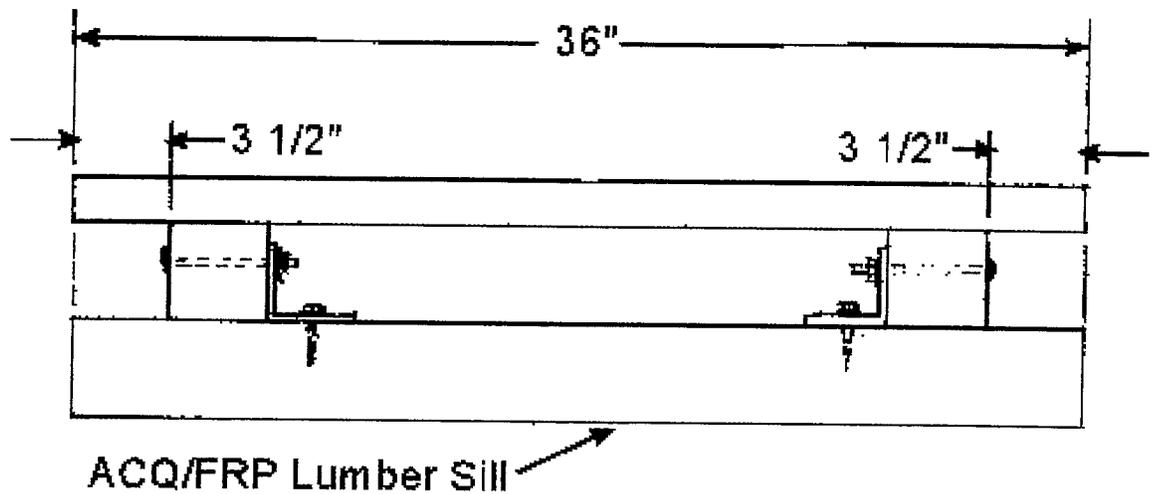

Figure 5
**Lumber Sills** - Experience has shown that nailing the end of the stringer to the sills, either by nail toeing or driving spikes vertically through the stringer, stresses the wood and may cause a cracked stringer at the time of assembly or later from the stress of use and environmental effects due to the rigidity of the attachment. Stringers bolted to the sills provide a more flexible attachment for stringer deflection. Figure 5 shows an end view of the attachment of the boardwalk stringers to the lumber sill.